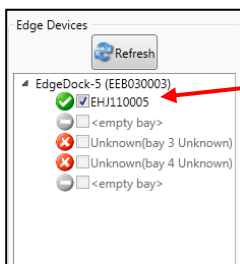

Figure 3-5: New Hardware wizard for Edge Dock
- For first time use of a docking station, **Welcome to the found new hardware wizard** will appear (see Figure 3-5). Select **No** and press **Next** through the remaining wizard. At the end of the wizard, press **Finish**.